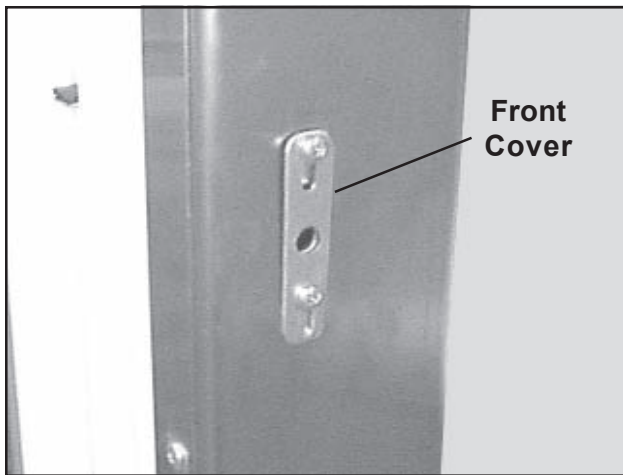

Figure 48. Front Cover
3. With a Phillips screwdriver, loosen both screws on the front cover (Figure 48).